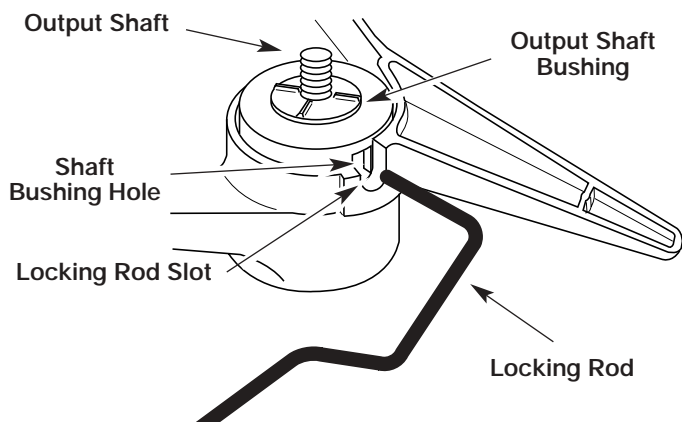

Fig. 8
1. Align the shaft bushing hole with the locking rod slot and insert the locking rod into the shaft bushing hole (Fig. 8).
6. Align the shaft bushing hole with the locking rod slot and insert the locking rod into the bushing hole (Fig. 8).
1. Align the shaft bushing hole with the locking rod slot and insert the locking rod into the bushing hole (Fig. 8).
5. Align the shaft bushing hole with the locking rod slot and insert the locking rod into the shaft bushing hole. (Fig. 8). Screw the cutting attachment clockwise onto the output shaft. Tighten securely.